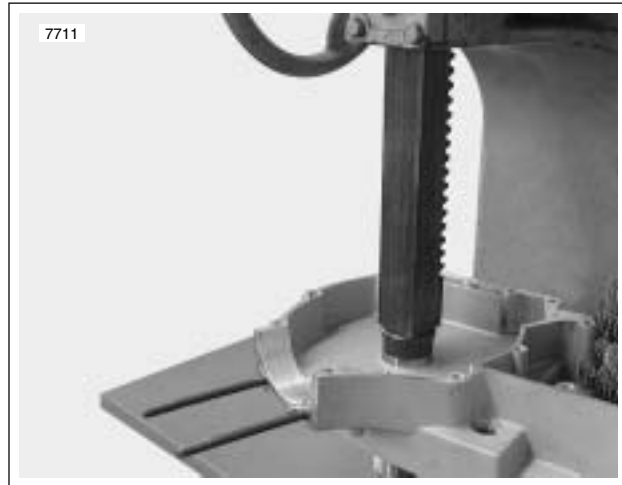

Figure 3-126. Right Outer Bearing Race Installation
5. See Figure 3-126. Insert "SPORTSTER" end of installer base into outboard side of left crankcase half bearing bore until base contacts outboard surface of installed left outer race.
7. See Figure 3-126. Insert shaft of installer plug through right outer race and into installer base. Press race into bore until firmly seated against retaining ring.